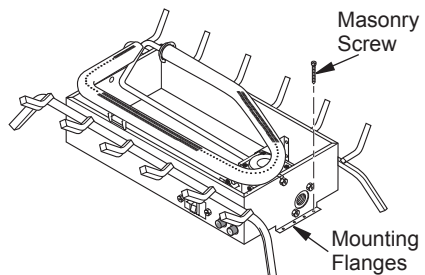

Figure 12 - Attaching Base Assembly to Fireplace Floor
7. Mark screw locations through one hole on each side of mounting bracket (see Figure 12). If installing in a brick bottom fireplace, mark screw locations in mortar joint of bricks.